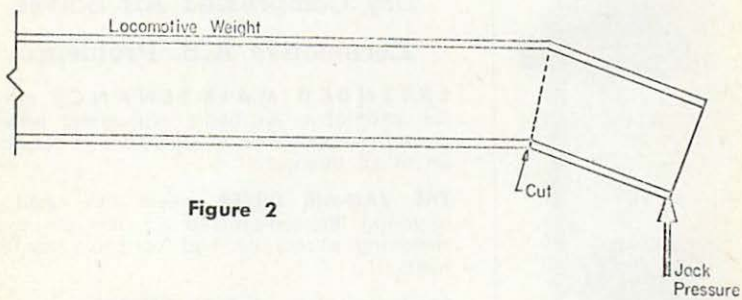

Figure 2
- through the top part of beams as indicated by dotted line in figure 2.